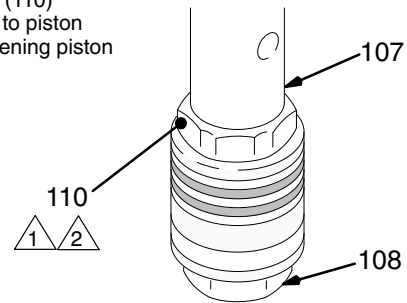

Fig. 21 03179
3. Tighten the nut (110) onto the piston valve (108) to 2 in-lb (0.23 N.m). See Fig. 21.
6. Hand tighten the valve into the piston rod just until the nut (110) contacts the rod. See Fig. 21.
7. Place the flats of the rod (107) in a smooth jaw vise.
8. Carefully tighten the nut (110) against the piston rod to 30 ft-lb (40 N.m). See Fig. 21.
Use two wrenches to maintain the alignment mentioned in Fig. 21.